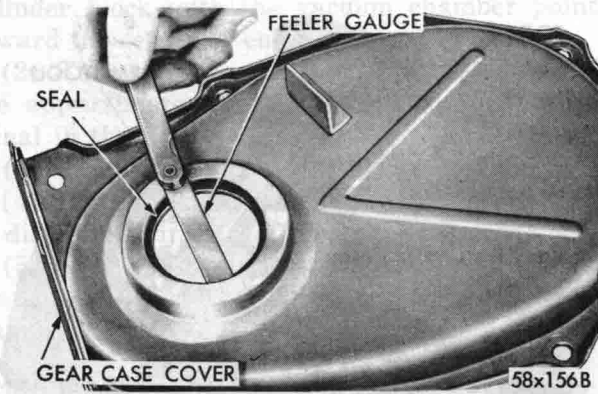

Fig. 34—Checking Seal for Proper Seating
(5) The seal is properly installed when neoprene is tight against the face of cover. Try to insert a .0015 feeler gauge between neoprene and cover (Fig. 34). If the seal is installed properly, the feeler gauge cannot be inserted. **It is normal to find particles of neoprene collected between the seal retainer and crankshaft oil slinger after the seal has been in operation.**